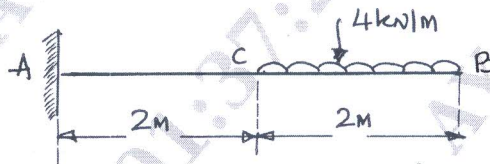

Fig.Q5(a)
- 5 a. Determine the slope and deflection at the free end of cantilever beam as shown in Fig.Q5(a) using moment area method. Take EI as constant.